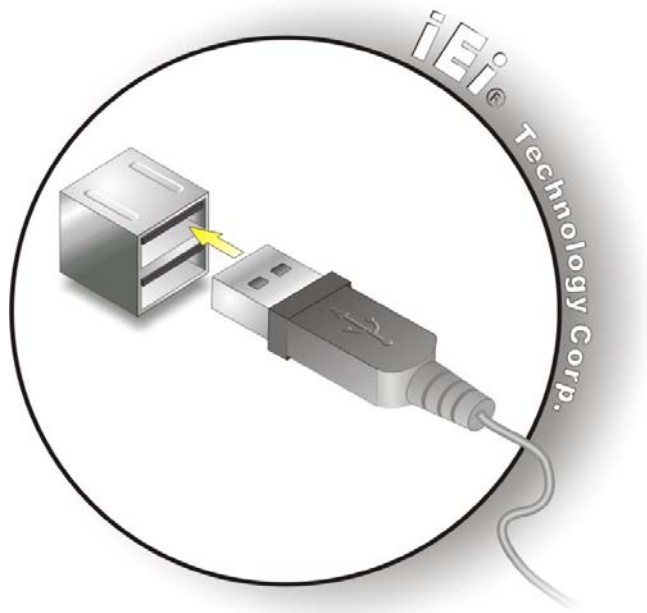

Figure 0-25: USB Connector
Step 2: Insert a USB Series "A" plug. Insert the USB Series "A" plug of a device into the USB Series "A" receptacle on the external peripheral interface. See Figure 0-25.